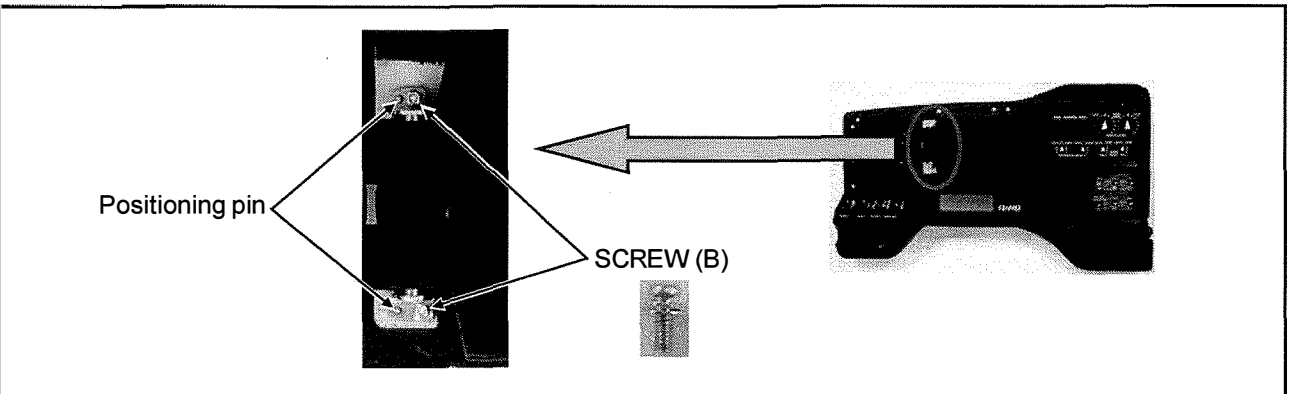

Figure 15-3
4. Unscrew the 2 screws (B) as shown in figure 15-3 and remove the LCD Unit.
2. Match the hole of HINGE and positioning pin as shown in figure 15-3.
3. Tighten the 2 screws (B) as shown in figure 15-3.